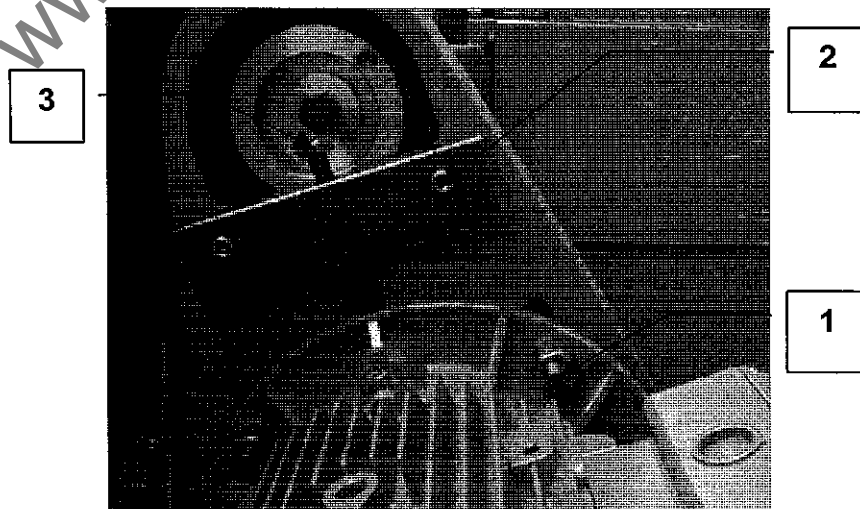
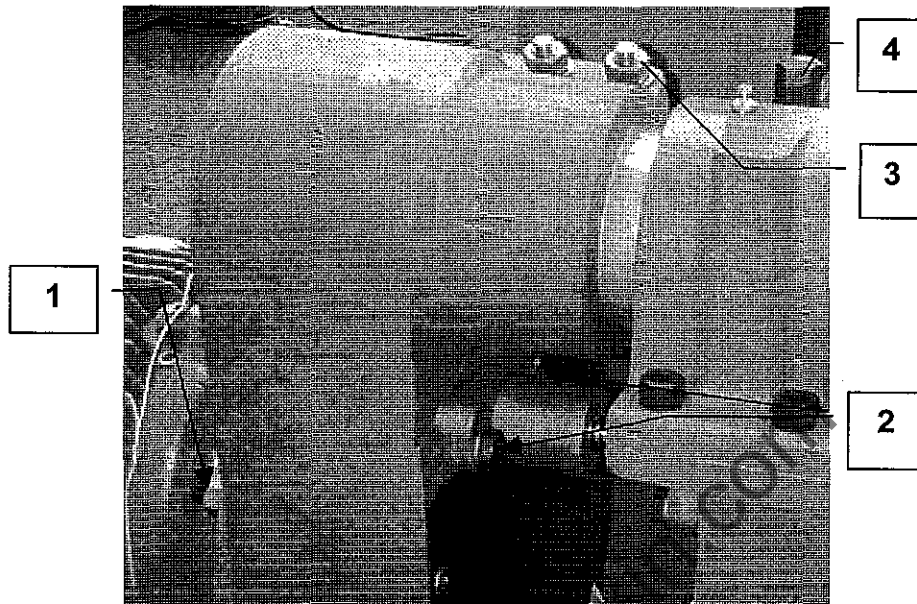

Figure 7.3.1
Figure 7.3.3
7.3.1 Re-tension Top/Bottom Head Drive Belt (Figure 7.3.1)
- 2 Slacken the four flange nuts (1).
- 3 Fit the screw block (2) using the drive cover mounting holes as the fixing position.
- 4 Screw in the tensioning bolt (3) until the bottom of the bolt just touches the motor flange.
- 6 Tighten the four flange nuts (1).
7.3.2 Re-tension Fence/Side Head Drive Belt (Figure 7.3.1)
- 2 Slacken the four flange nuts (1). Ease the motor **away** from the spindle.
7.3.3 Replace Spindle Drive Belt (Figure 7.3.3)
- 4 Check that the barrel locknut (4) is tight.